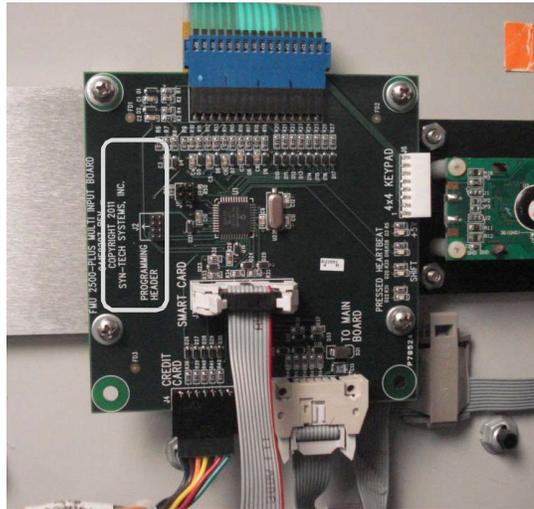
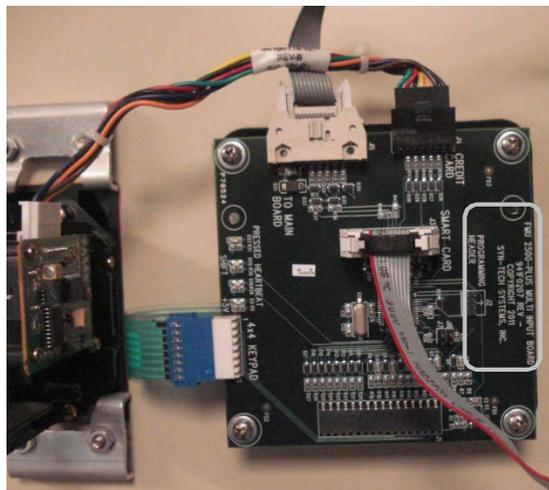

Figure 3. 941F0207 over 4x11 Keypad (silkscreen header to left)
Figure 4. 941F0207 over 4x4 Keypad (silkscreen header to right)
this MIB. Figure 3 shows an FMU with a 4x11 keypad. The silkscreen header on the MIB is circled, and to the left. Figure 4 shows an FMU with a 4x4 keypad. The silkscreen header on the MIB is circled, and to the right. Perform the following to replace the 941F0207 MIB:
3. Perform the following for an FMU with a 4x11 (43 character) keypad (see Figure 3):
4. Perform the following for an FMU with a 4x4 keypad (see Figure 4):
9. Position the 941F0207 MIB over the four standoffs as shown in Figure 4 and attach with 4 screws and washers.